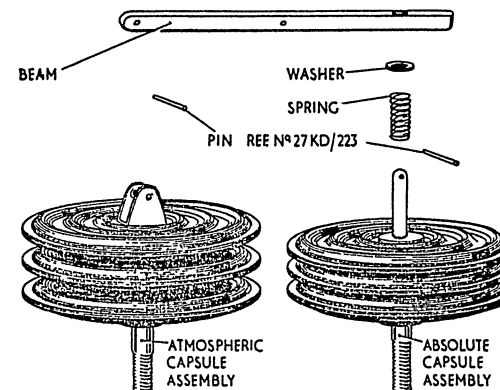

Fig. 8. Capsule assemblies
(3) Remove the absolute capsule assembly from the beam (fig. 8) by unsoldering the pin in the capsule end fitting. Remove the washer and spring. Dismantle the atmospheric capsule assembly from the beam by cutting off one end of the crimped pin at the end fitting, and withdrawing the pin. Do not attempt to dismantle the capsules.
Capsule assemblies (fig. 8)